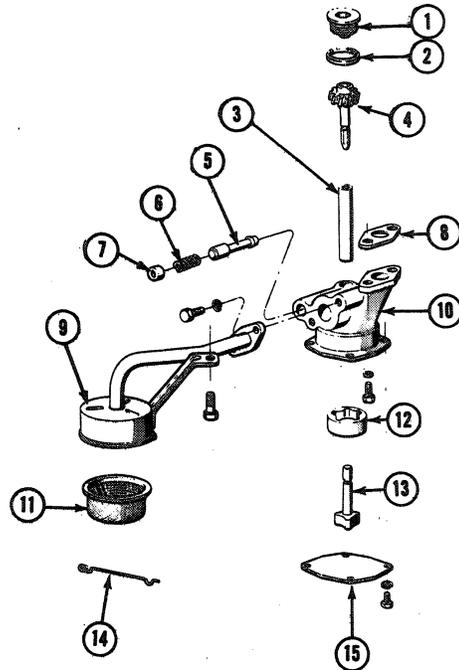

Figure 34
2. Remove the four cap screws and remove the pump cover, Figure 34. Remove the rotor and shaft assembly and the outer rotor.
3. Insert a self-tapping screw of the proper diameter into the hole in the relief valve plug and pull the plug out of the chamber. Remove the spring and relief valve, Figure 34.
The oil pump assembly is shown in Figure 34.